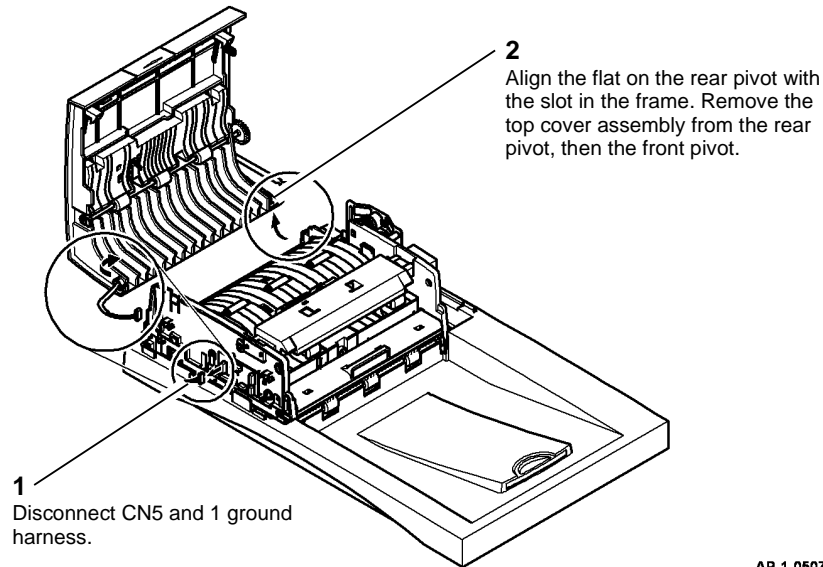

Figure 8 Top cover removal
9. Remove the top cover assembly, Figure 8.